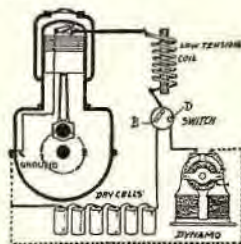

Fig. 14
Fig. 14. Make-and-break ignition, using dry cells to start on when the switch is on the (B) side; after the engine is started the switch is placed on the (D) side and a direct-current dynamo supplies the electric current and the dry cells are cut out of service. The low-tension coil is used with either the dry cells or the dynamo.
Where a dynamo, which delivers a "direct" current of low-tension is used, as in Figs. 14, 16, and 17, note that the low-tension coil is used in connection with the batteries or with the dynamo, because the dynamo delivers a direct current flowing in one direction and at a low voltage, or approximately the same voltage as the batteries and thus merely acts as a mechanical source of electric supply instead of a chemical source.